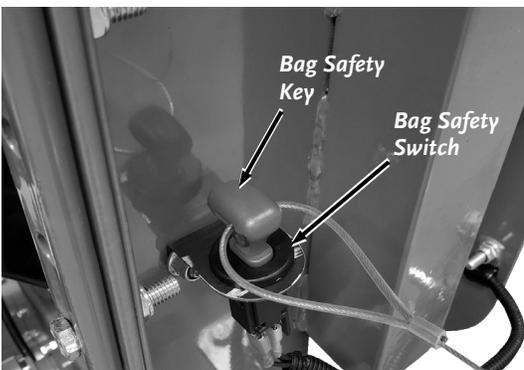

Figure 10
9. Connect the Bag Safety Key into the Bag Safety Switch (**Figure 10**).